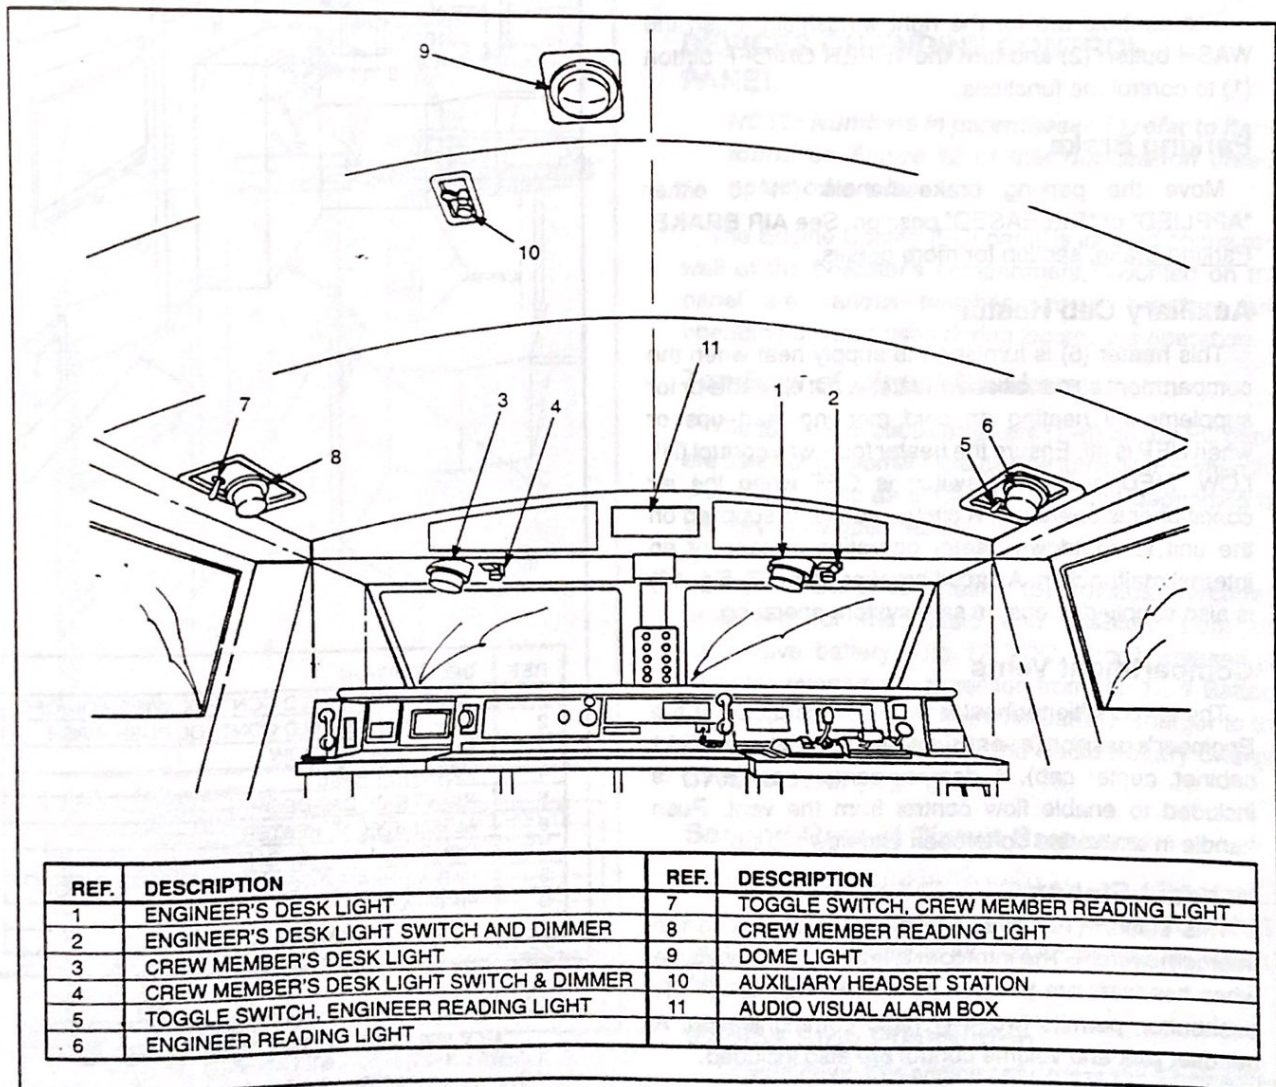

FIG. 9. OPERATING COMPARTMENT CEILING DEVICES. E-42717.
**NOTE:** Numbers in parentheses ( ) refer to items found on Figure 9 of this publication unless noted otherwise.